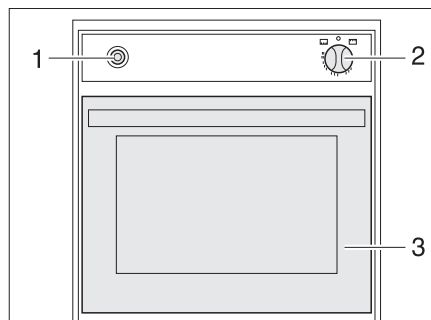

Fig. 310 Gas oven (Spinflo)
- Fully open the oven flap (Fig. 310,3).
- Lightly press control knob (Fig. 310,2) and set to "🔥" (oven) or "🔥 GRILL" (grill).
- Press the control knob (Fig. 310,2) and hold it down for 5 to 10 seconds. Gas will stream into the burner.
- Press the ignition switch (Fig. 310,1) repeatedly until there is a flame.
- Turn the control knob (Fig. 310,2) to "0". The flame fades.